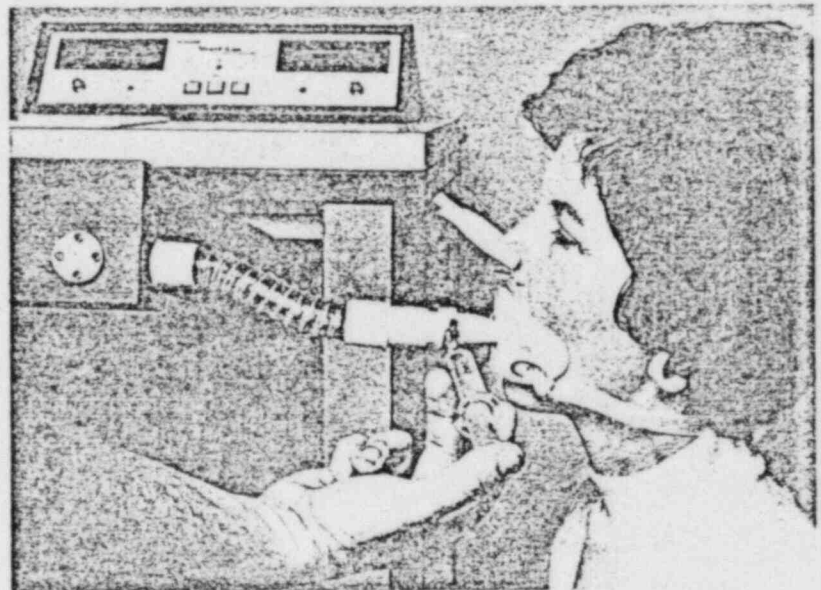

Figure 20. Injection of  $^{133}\text{Xe}$  gas directly into the mouthpiece for bolus administration studies.
6.3.1.1 With the Head Valve in the Stabilization/Washout position, inject the desired amount of  $^{133}\text{Xe}$  with a glass syringe into the Luer-stopcock fitting on the side of the mouthpiece. (See Figure 20.)
6.3.2.3 At the beginning of an inspiration cycle, inject the bolus of  $^{133}\text{Xe}$  gas with a glass syringe into the Luer-stopcock fitting at the side of the mouthpiece. (See Figure 20.)